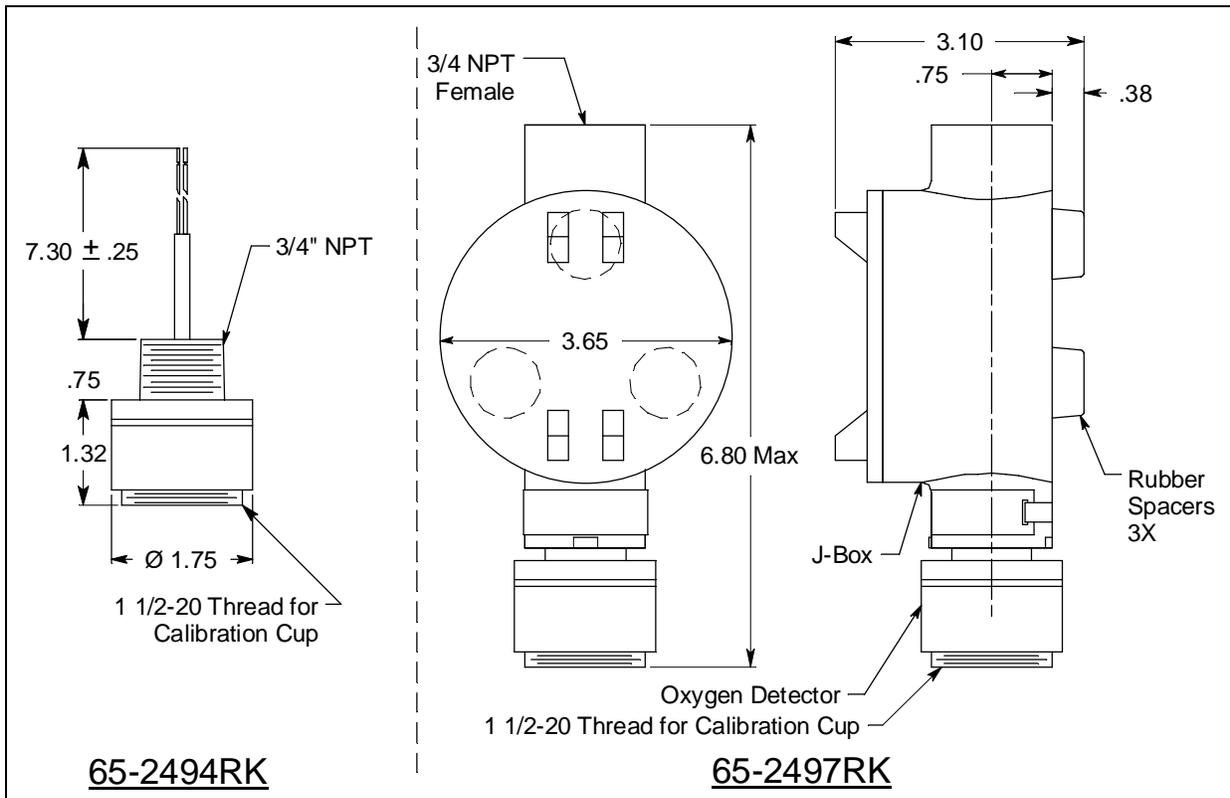

Figure 3: Outline & Mounting Dimensions, 65-2494RK & 65-2497RK
NOTE: If you are installing a 65-2494RK, it does not include a junction box and is usually factory installed in one of a controller's conduit hubs or may be field installed using the 3/4 NPT threads on the end with the wires. The 65-2497RK includes a junction box as shown in Figure 3 below.
2. At the mounting site you select, hang or mount the junction box with the detector facing down (see Figure 3).